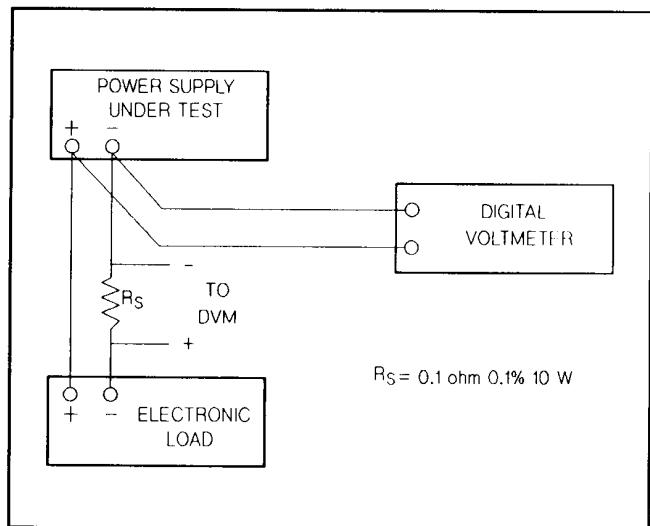

Figure A-2. Basic Test Setup
- Connect the test equipment as shown in Figure A-2. Operate the electronic load in constant current mode and set its current to the full rated value of the power supply (E3610A: 3.0 A, E3611A: 1.5 A, E3612A: 0.5 A).
- Connect the test equipment as shown in Figure A-2. Operate the electronic load in constant current mode and set its current
- Connect the test equipment as shown in Figure A-2, but replace the DVM with the oscilloscope. Operate the electronic load in constant current mode.
- Connect the DVM across R_s in Figure A-2. Operate the electronic load in constant voltage mode and set its voltage to the full rated value of power supply.